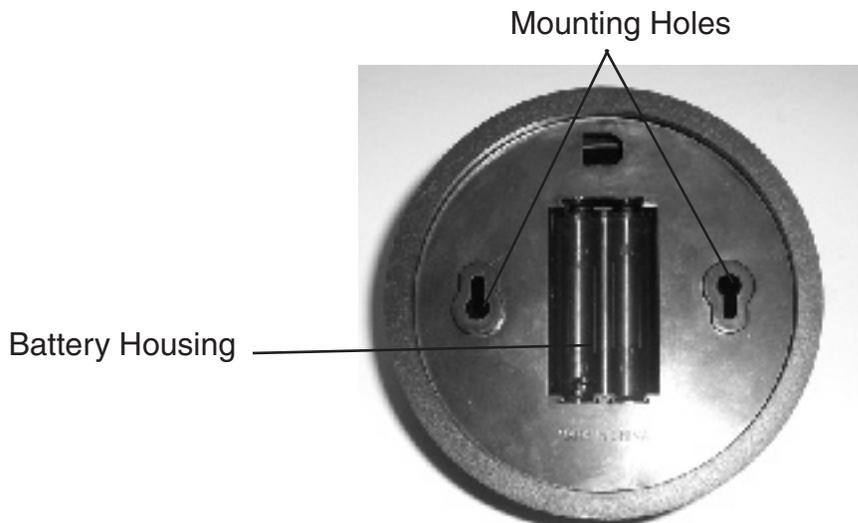

FIGURE 1
2. Next place two AA 1.5 VDC Batteries in the Battery Housing. Be sure that the polarities (+ or -) of the batteries line up with the polarity signs in the battery housing. Finally replace the battery cover. **See Figure 1 on page 4.**